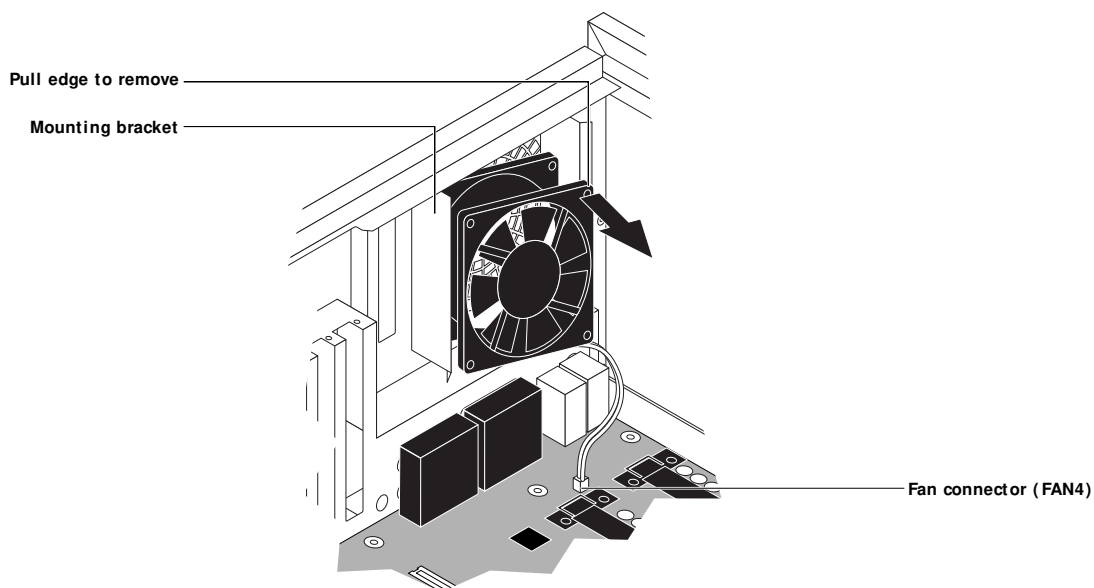

FIGURE 4-24 Removing the fan
1. Angle one edge of the fan into the mounting bracket on the back panel and snap the fan into the clips on the bracket (see Figure 4-24 on page 4-50).
2. Plug the 3-pin fan connector into the motherboard connector labeled FAN4 (see Figure 4-24 on page 4-50).